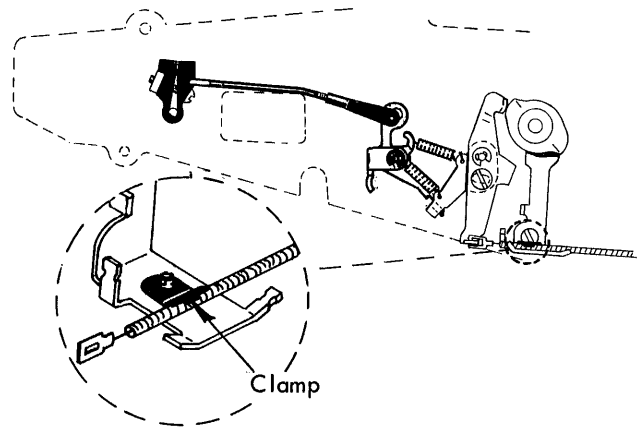

FIGURE 142.9 Keyboard Cable Clamp
- e. Keyboard Cable Clamp - Loosen the clamp screw (Fig. 142.9) and move the cable sheath forward or back under the clamp to satisfy the following condition: